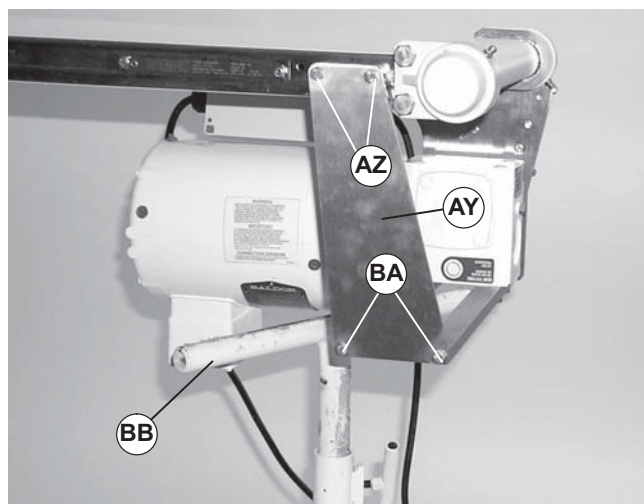
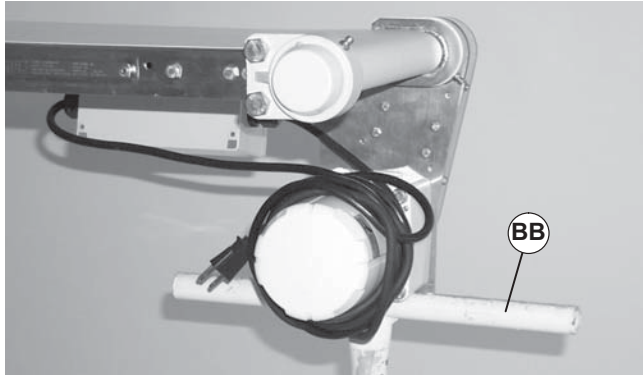

Figure 25
Figure 26
For conveyor with a Heavy Load Bottom or Top Gearmotor Mounting Package, bracket (Figure 25, item AY) must be removed.
The weight of the gearmotor is all on one end of the conveyor which could cause it to tip off the stands when the mounting clamp plates are loosened. Be sure to provide support (Figure 25, item BB) and (Figure 26, item BB) underneath the gearmotor while changing the be
2. Place a temporary support (Figure 25, item BB) and (Figure 26, item BB) under gearmotor mounting package.
7. For a conveyor with a Heavy Load Bottom or Top Mounting package, install bracket (Figure 25, item AZ).